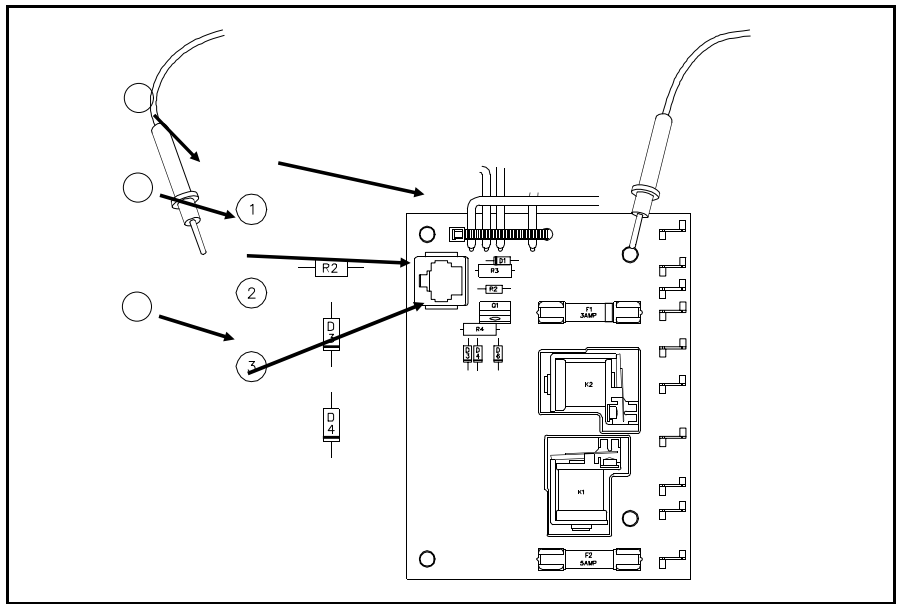

Figure 5.55 12 Volt DC Circuit Check
7. Check the three places indicated by Figure 5.55 for 12 volts. If you do not have 12 volts as shown replace the Power Supply.